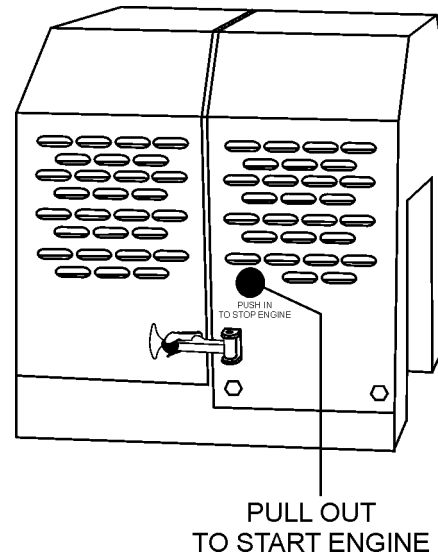

Figure 13. Start/Stop Switch
5. The main start/stop switch located on the engine cover (Figure 13) is used to start and stop the engine. Pull this switch outward to start the engine.
2. Push the main start/stop switch (Figure 13) inward to stop the engine.